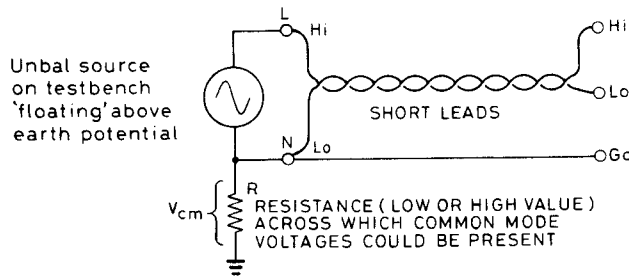

Fig. 6
When making measurements on an unbalanced source, (still using short leads) where the source is 'floating' above earth potential, as shown in Fig. 6, then the GUARD terminal may be connected to the Lo (N) terminal of the source. This applies whether the resistance R is very low (earth circuit impedance) or deliberately of a high value as in the case of floating sources. The advantage gained is small in this instance, because the resistance of the connecting leads is low.